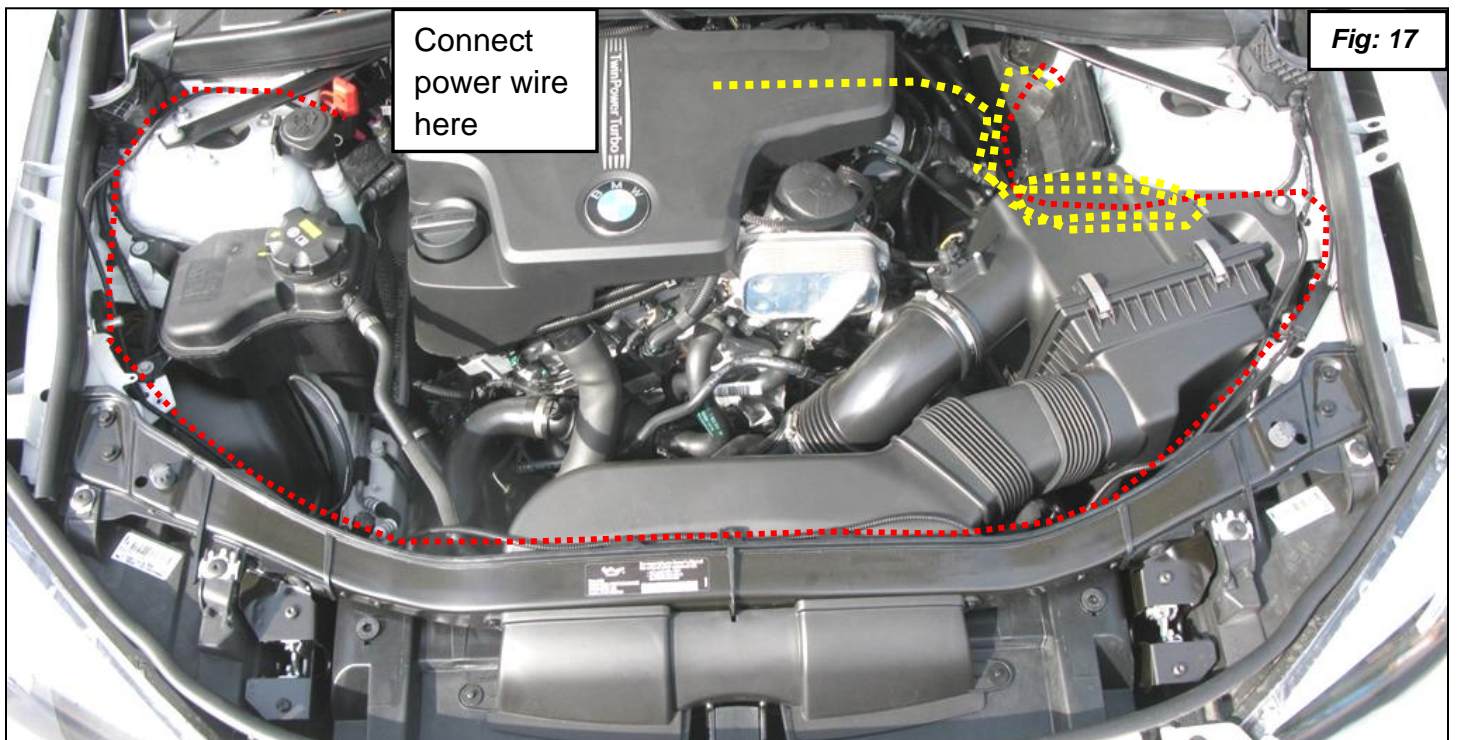

Fig: 17
24. Route the wires for the DINANTronics box from the ECU to the bracket area going over to the mounting bracket and bring it up to the DINANTronics. Connect the power and ground. Coil up the excess wire and zip tie it out of the under the air box. See figure 17.